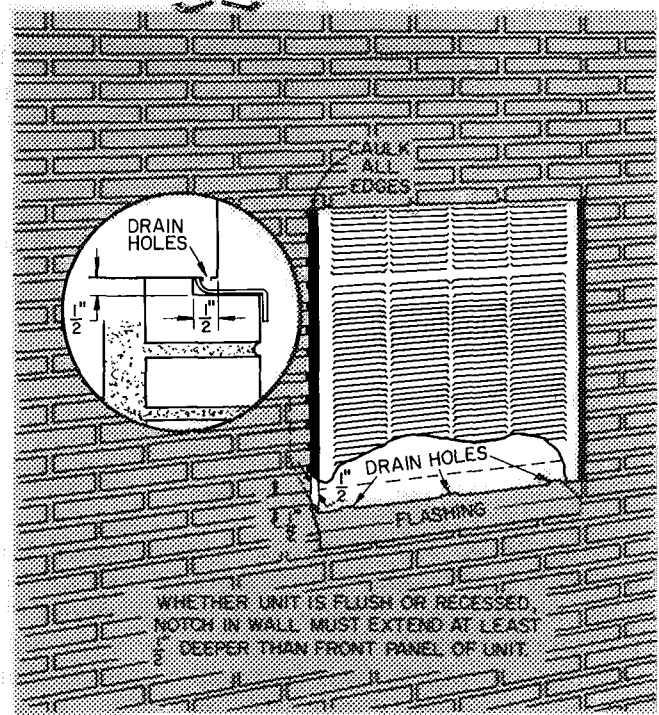

Fig. 3 – Flush or Recess Mounting
2. Tilt to the front to allow the water to drain off. See Fig. 3.
4. Use flashing under the unit and caulk all edges to provide a weathertight seal (Fig. 3).